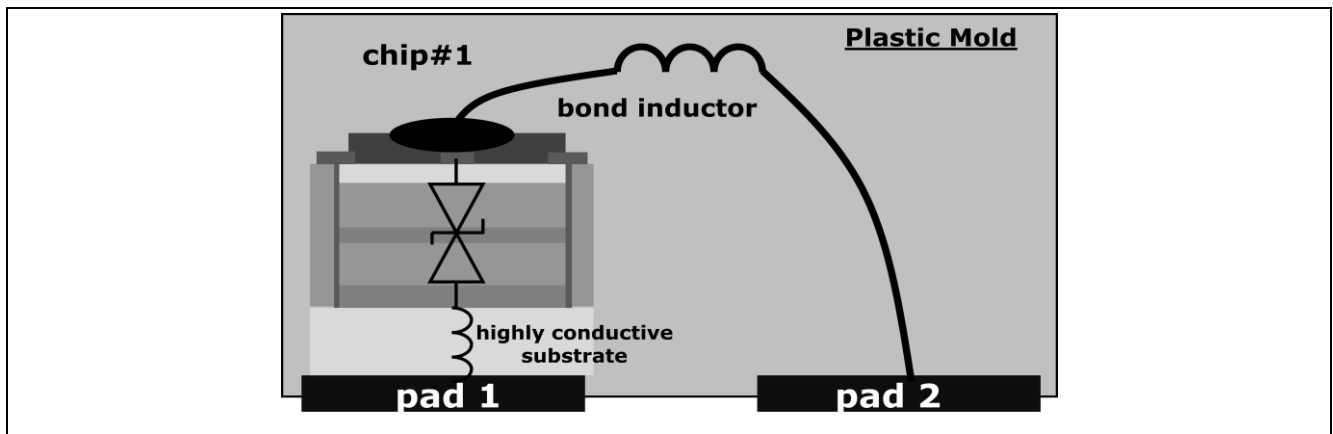

Figure 3 Internal structure of ESD205-B1-02Series in plastic package (vertical ESD diode design)
**ESD205-B1-02Series** in plastic package has **highest ESD protection level**, making it perfect for applications where 16-20kV according to IEC61000-4-2 is required. Moreover, there is **bigger version** of the device (ESD205-B1-02LS) in 0402 package if PCB technology cannot handle smaller 0201 (ESD205-B1-02ELS) part. Internal structure of ESD205-B1-Series can be seen in Figure 3.